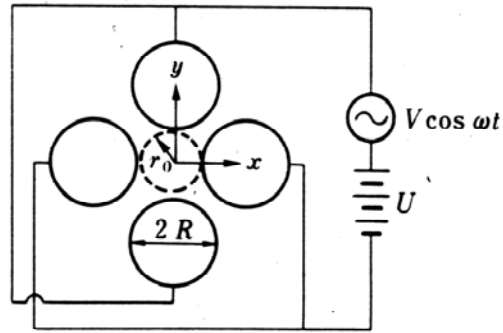

Fig. 15.3 Voltage applied to electrode
As shown in Fig. 15.3, these opposing electrodes are connected with each other and dc and ac voltages of $(U + V \cos \omega t)$ overlapped are applied with reverse polarity respectively. Here, the equation of motion of the ions incident on the filter section are expressed by Eq. (1) with respect to the x, y and z axes shown in Fig. 15.3.
When Eq. (3) is expressed on (U, V) plane as shown in Fig. 15.3, both the x axis and y axis show stable regions in which both axes x and y are stable, and only ions with a mass/charge ratio that falls in this area can pass through the filter section.
In order that the U/V ratio constant is constant, a/q is also constant from Eq. (2) and a straight line that passes through the origin can be drawn, as shown in Fig. 15.3. Under certain conditions of U/V, all ions of mass/charge ratio are arranged on this straight line in order of mass number, that is, they pass through the filter section. As the U/V ratio is increased further, the straight line comes close to the apex of the stability region and only ions of certain mass numbers can dwell in the stability region. In other words, the resolution of spectrum becomes high.